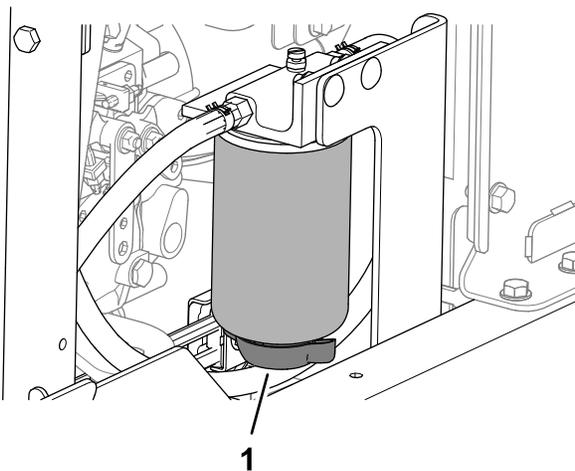

Figure 82
3. Align a drain pan under the drain valve of the fuel-water separator (Figure 82).